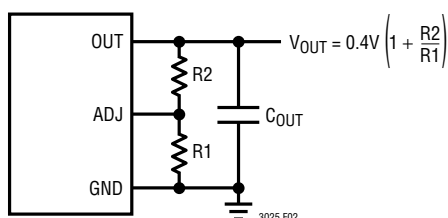

Figure 2. Programming the LTC3025
**ADJ (Pin 5):** Adjust Input. This is the input to the error amplifier. The ADJ pin reference voltage is 0.4V referenced to ground. The output voltage range is 0.4V to 3.6V and is typically set by connecting ADJ to a resistor divider from OUT to GND. See Figure 2.
The output voltage is set by the ratio of two external resistors as shown in Figure 2. The device serves the output to maintain the ADJ pin voltage at 0.4V (referenced to ground). Thus the current in R1 is equal to  $0.4\text{V}/R1$ . For good transient response, stability, and accuracy, the current in R1 should be at least 8µA, thus the value of R1 should be no greater than 50k. The current in R2 is the current in R1 plus the ADJ pin bias current. Since the ADJ pin bias current is typically <10nA, it can be ignored in the output voltage calculation. The output voltage can
be calculated using the formula in Figure 2. Note that in shutdown the output is turned off and the divider current will be zero once  $C_{OUT}$  is discharged.